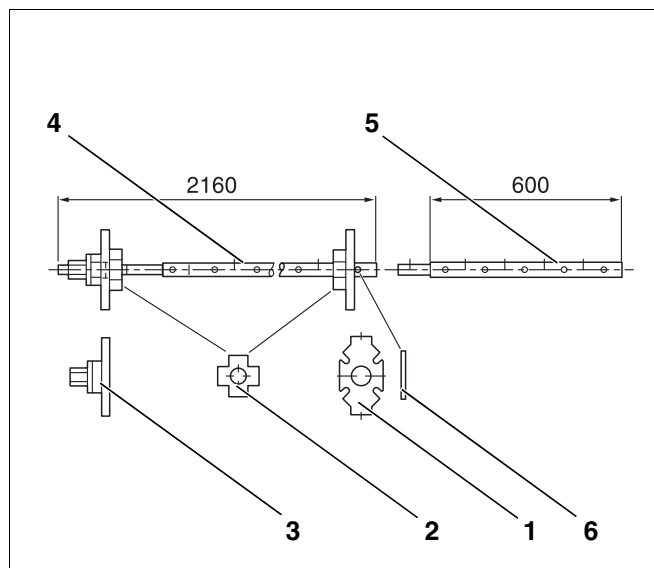
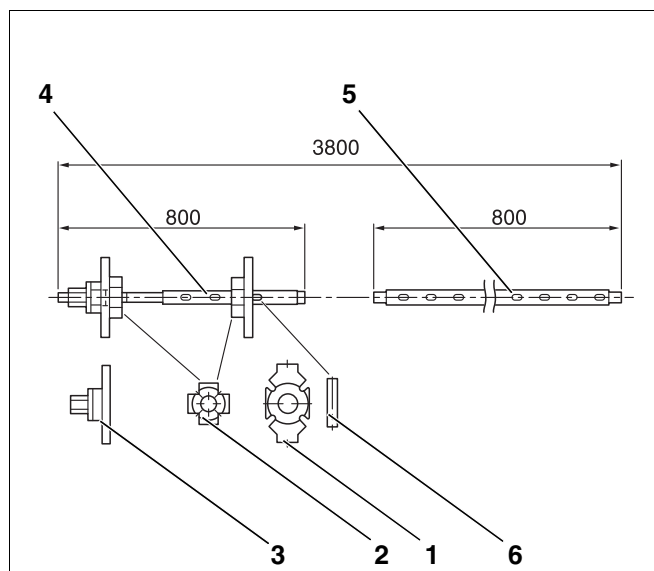

Fig. 4 Boiler compression tool size 2.2 (dimensions in mm)
Fig. 5 Boiler compression tool size 2.3 (dimensions in mm)
- Boiler compression tool 2.2 (Fig. 4, page 14) or 2.3 (Fig. 5, page 14)